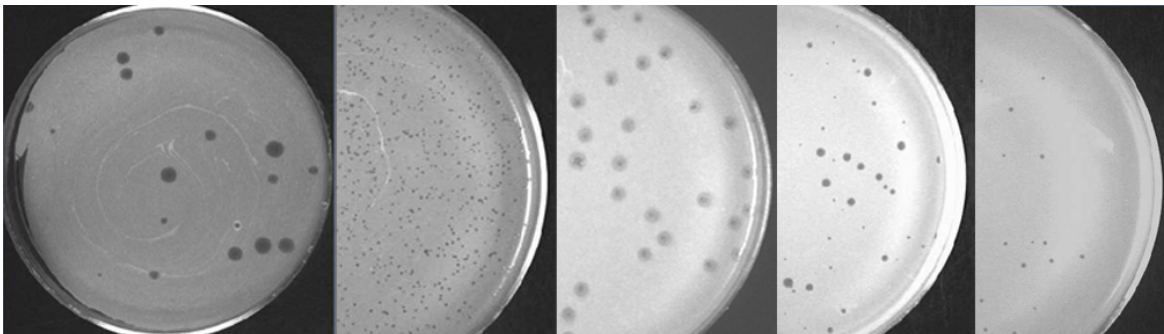

Figure 2: Examples of different types/sizes of plaques
1. Remove plates from incubator, and check for plaques. Real plaques will generally be circular areas of clearing in the bacterial lawn where phages have killed the bacteria. The best way to look for plaques is to remove the lid from a plate, allow any condensation to drip onto a paper towel, and then hold the plate up to a light source. Light will show through more clearly where the bacterial lawn has been cleared. See Figure 2 for examples of plaques.